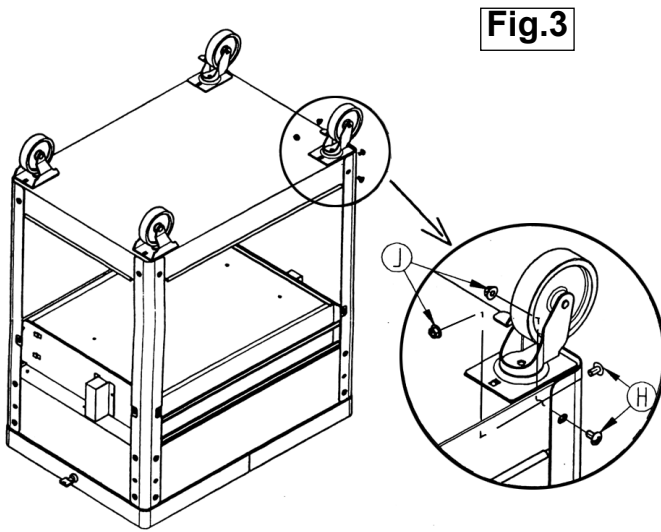

Fig.3
4.4 Next attach the base of the trolley to the legs. Do this by following the diagram below (Fig. 3) using the screws (H) and small nuts (J).